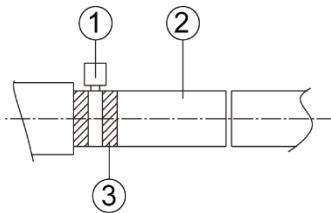
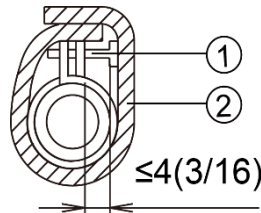

Fig 4.3.2
Fig 4.3.3
- (1) Insert the drain hose into the drain hole and tighten it with tapes, as shown in Fig 4.3.2.
- (2) Tighten the pipe clamp, with the distance between screw nut and hose smaller than 4mm (3/16 in.).
- ① metal clamp(accessory)
- ② drain hose(accessory)
(3) Use sealing plate to make the pipe clamp and hose insulated, as shown in Fig.4.3.3.
- ② thermal sponge(accessory)